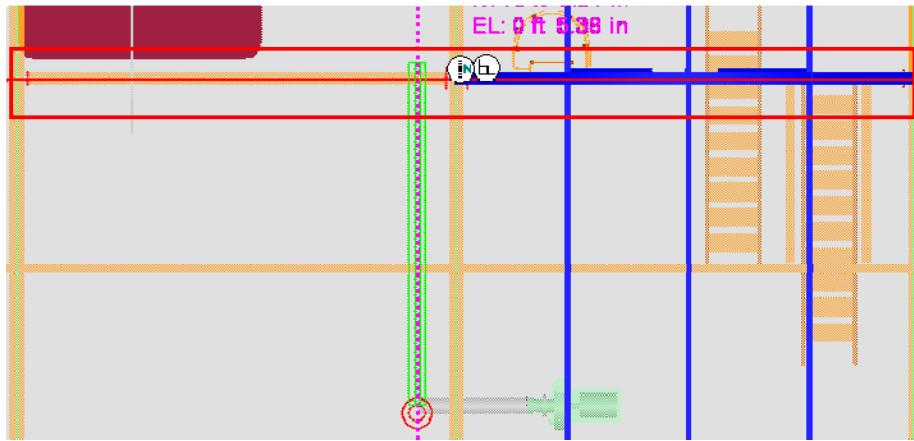

Figure 16: Grid Line Added to SmartSketch
18. Now move the cursor in the north direction. You will see an outline of the pipe. Move the cursor to the grid line highlighted in Figure 16 to add it to SmartSketch.